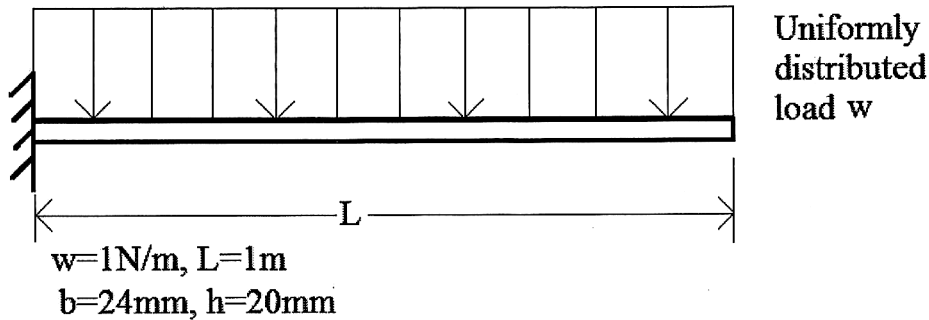

Figure Q2
b. Shown below is a steel cantilever beam with uniformly distributed load (Figure Q2).